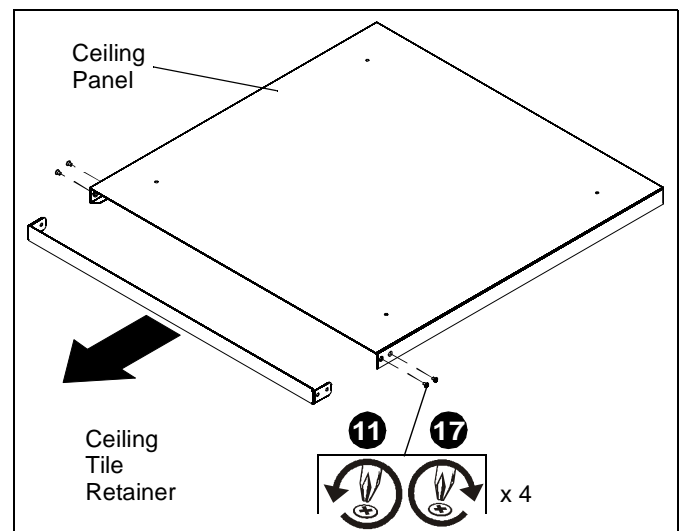

Figure 8
9. Use the provided push button (B) to operate the SL236SP up and down, ensuring that all clearances are adequate.
11. Remove four screws and the ceiling tile retainer from the ceiling panel. (See Figure 8)
16. Install ceiling tile and grid by sliding it into the open end of the ceiling tile retainer. (See Figure 8)
17. Re-install ceiling tile retainer to ceiling panel and secure with four screws removed in Step 11. (See Figure 8)
18. Use the provided push button (B) to operate the SL236SP up and down, ensuring that all clearances are adequate after the ceiling has been finished.